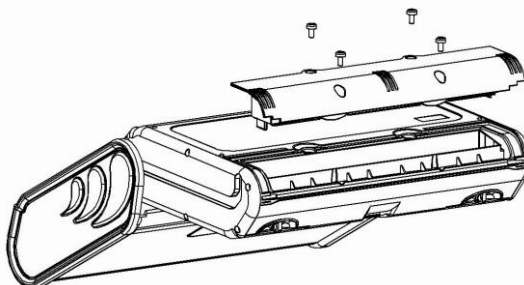

Fig. 70. Replacing the battery pack
- Remove the four screws of the rechargeable batteries/batteries compartment (in the lower part of the casing), see Fig. 70,